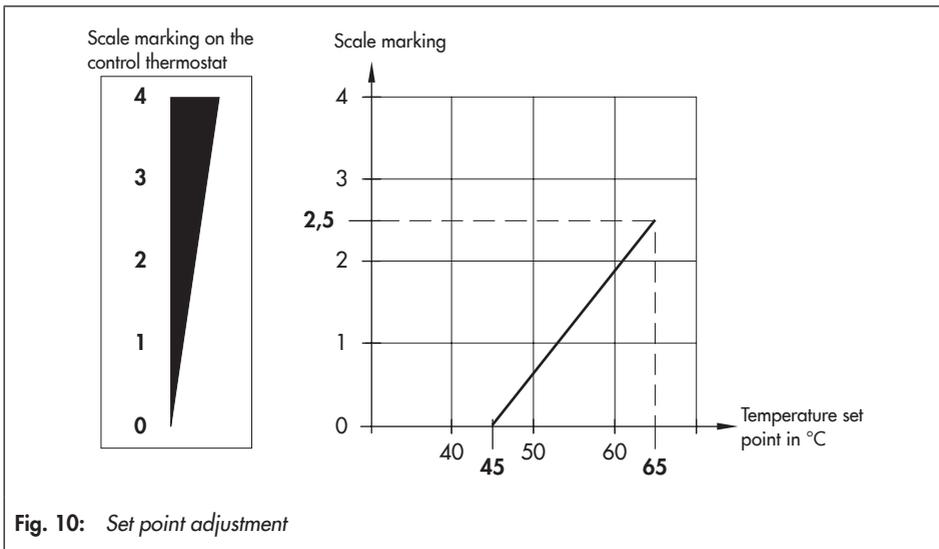

Fig. 10: Set point adjustment
1. Set the target temperature set point by turning the black adjustment knob (9) according to the scale (see Fig. 10).
2. Pull the wire through the lead-seal hole (19) at the control thermostat (30) and lead-seal it to fix the adjusted temperature set point.